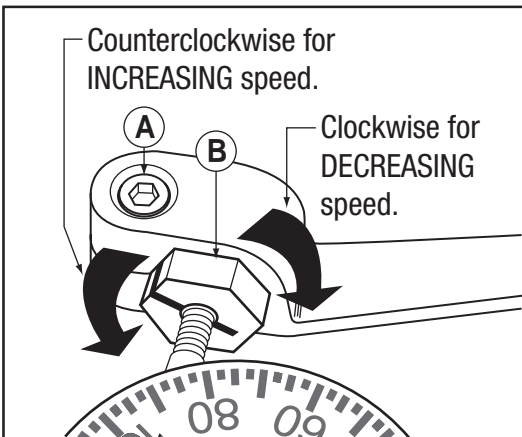

Fig. 3-19 Adjustment Bracket & Collar
If the Corrected counter is indicating a faster time than the Uncorrected counter, loosen the #4-40 socket head cap screw (A) in the adjustment bracket and turn the adjustment collar (B) clockwise. (Looking at the hex face as shown in Fig. 3-19) If the Corrected counter is indicating a slower time than the Uncorrected counter, turn the adjustment collar counterclockwise.